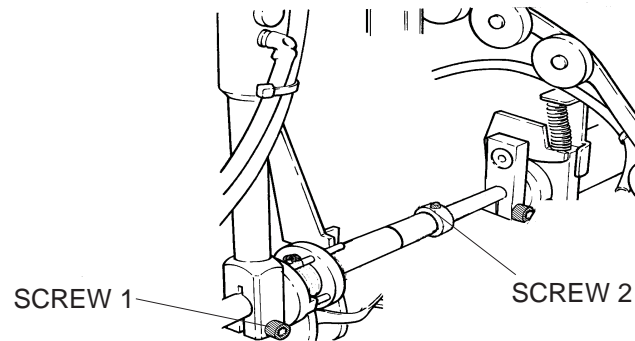

figure 3-29
52. If they are too far to the left or to the right, loosen SCREW 1 and carefully move the SUCKER BAR ARM in the desired direction. Make sure the SUCKER Bar does not interfere with the DOUBLE FILM DETECTOR. See figure 3-29 on the next page.